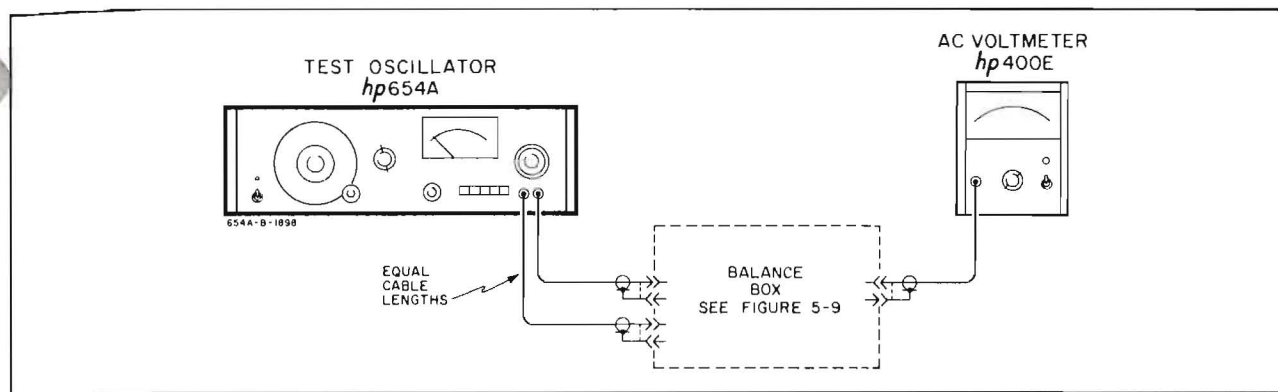

Figure 5-8. Balance Checks
- a. Connect the equipment, as shown in Figure 5-8, using the 135 ohm Balance Box: (the parts required to build the Balance Box are shown in Figure 5-9) the cables from the 654A should be as short as possible and of equal length (jumper cables, -hp- 10502-6001, which are made from 8 in. lengths of coaxial cable, are suitable for this application).